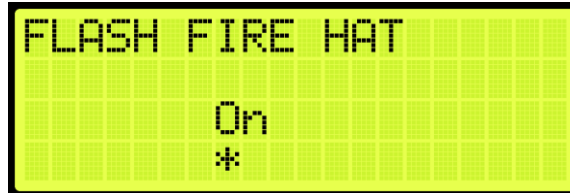

Figure 552: FLASH FIRE HAT Menu
5. From the FLASH FIRE HAT menu, scroll and select On (See Figure 552).